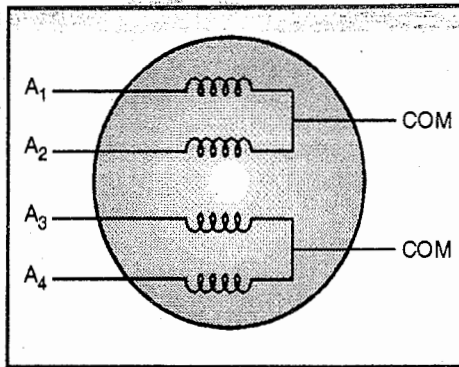

Fig. 3.3.1 : Stator windings configuration
- Generally the stepper motors have four stator windings that are paired with a common center tap as shown in Fig. 3.3.1.